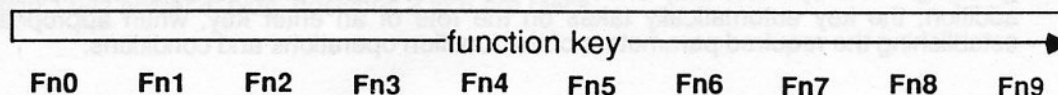

Fig 3.2 Function Selection
- b) **[FUNCTION]**. This key is used to select the required instrument function, from Fn0 to Fn9. At switch on the instrument defaults to Fn0 which automatically prepares Ultrospec III for the simple routine measurement operations of absorbance, %T, concentration, or peak check. The use of [FUNCTION] to present the enhanced operations and conditions requires operator interaction with the keypad where the functions Fn0 - Fn9 are scrolled through as shown in Figure 3.2.